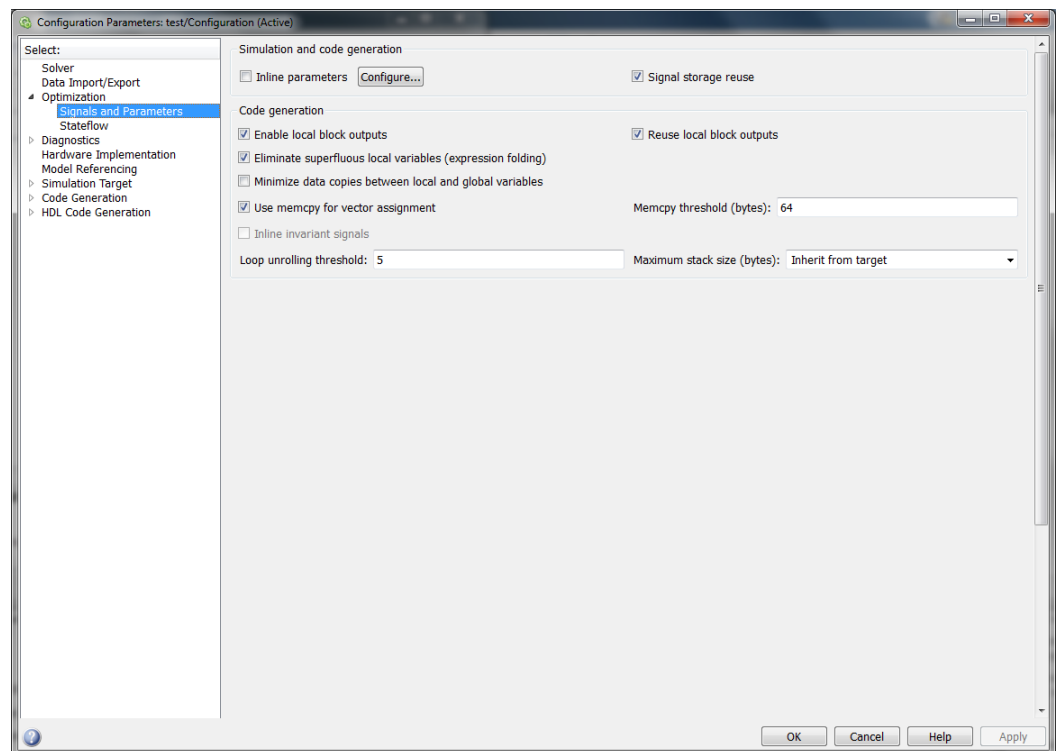

Figure 11: Configuration settings for Signals and Parameters.
3. Click on the triangle symbol next to the 'Optimization' option in the left-hand window pane to open the 'Signals and Parameters' configuration window. Refer to Figure 11 for the appropriate settings.